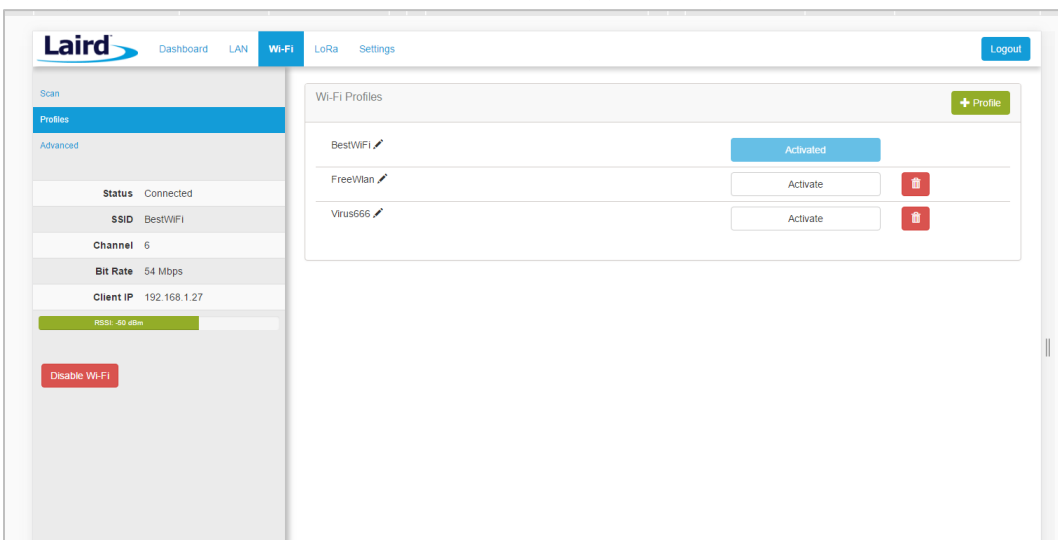

Figure 16: Wi-Fi profiles page
- Click the **LAN** button in the main menu, then click the **Profiles** button in the left menu. This page is useful for adding a hidden Wi-Fi network that is not broadcasting its SSID (Figure 16).